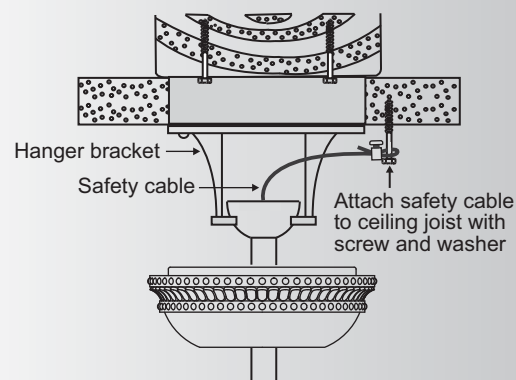

Fig. 11
**Step 1.** Attach the provided wood screw and washers to the ceiling joist next to the mounting bracket but do not tighten. (Fig. 11)